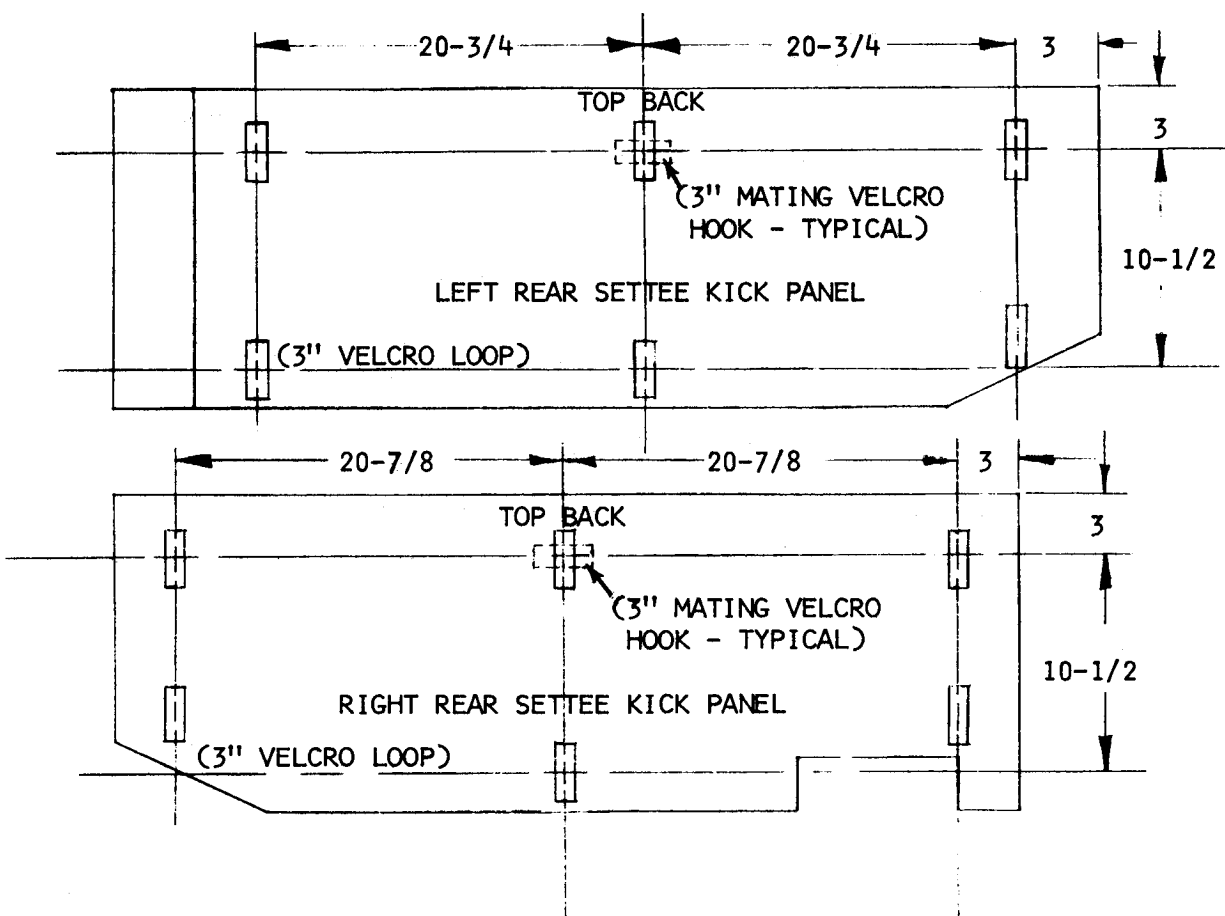

FIGURE 2
4. Install "velcro" loop strips vertically on kick panels with contact cement as shown in Figure 2.